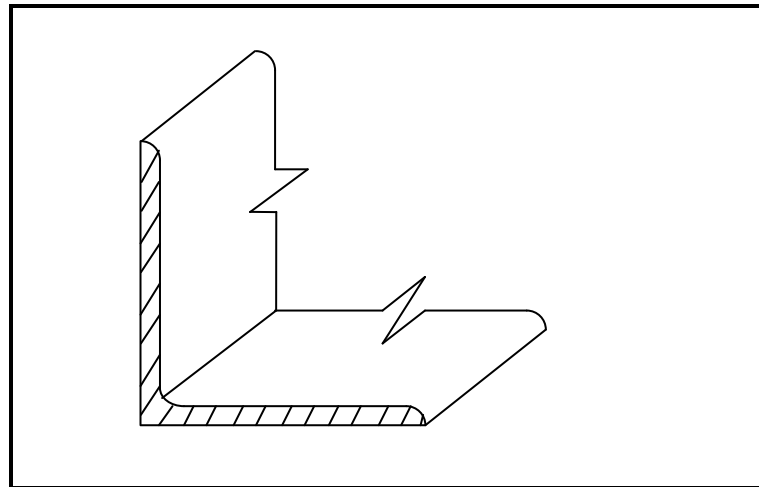

FIGURE 1.7
1.7 FIGURE 1.7 below is a sketch of a steel profile.